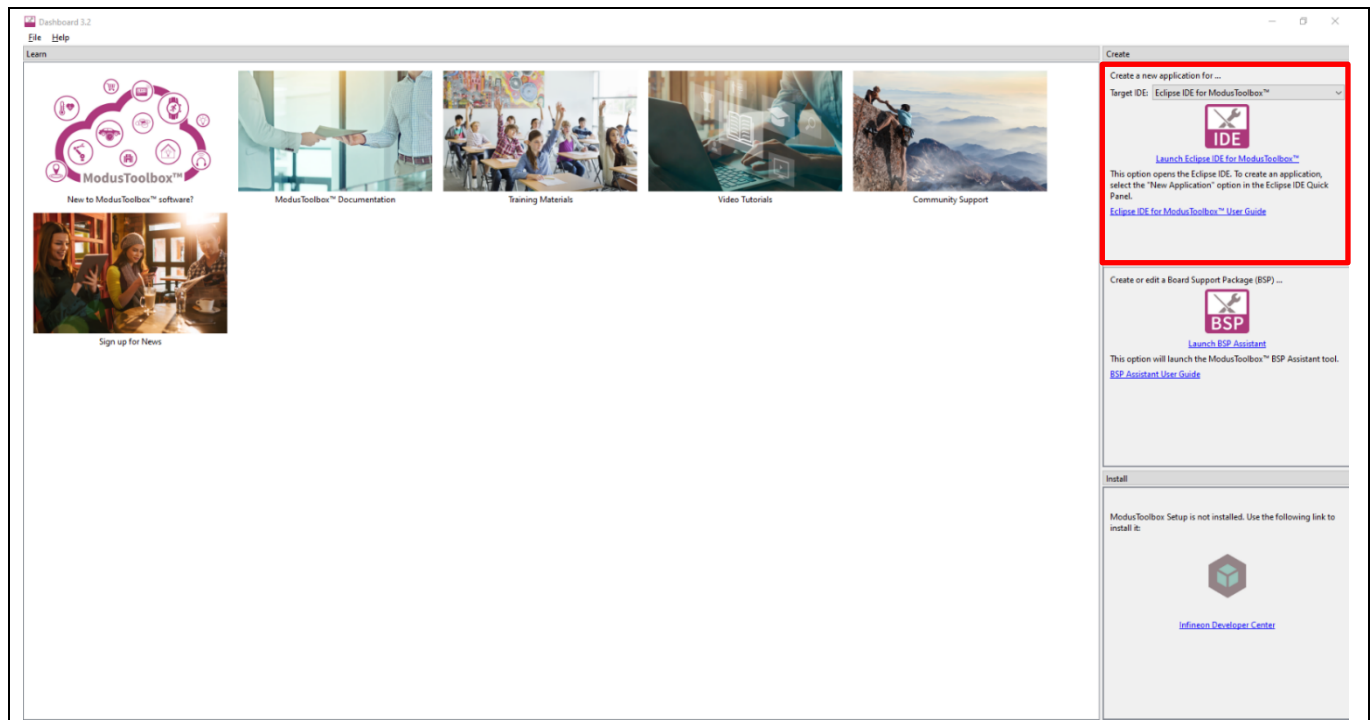

Figure 31 ModusToolbox™ - Launch Eclipse IDE
1. Open ModusToolbox™ and select Launch Eclipse IDE for Modus Toolbox (Figure 31)